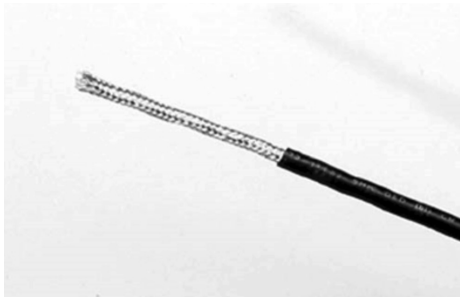

Figure 3.3 - Removing outer plastic jacket
1. Remove two to three inches (5 to 8 cm) of the outer plastic jacket as shown in **Figure 3.3**.